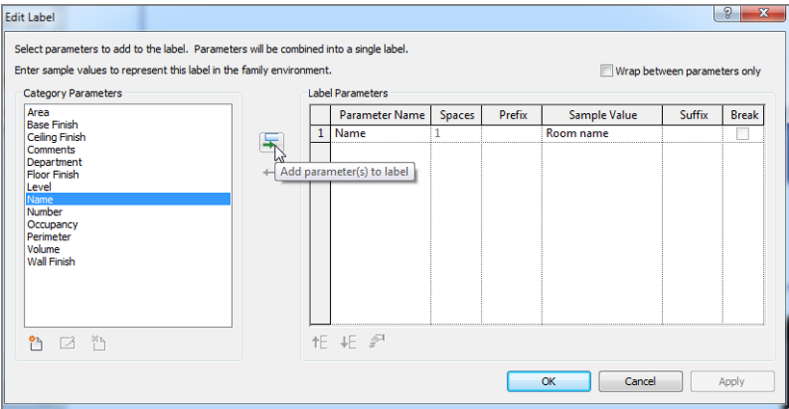

FIGURE 15.13: A list of available parameters that you can add to the room tag
- 5. In the Edit Label dialog, the list to the left displays all the parameters that you can add to the room tag (see Figure 15.13). Don’t change anything; click OK.